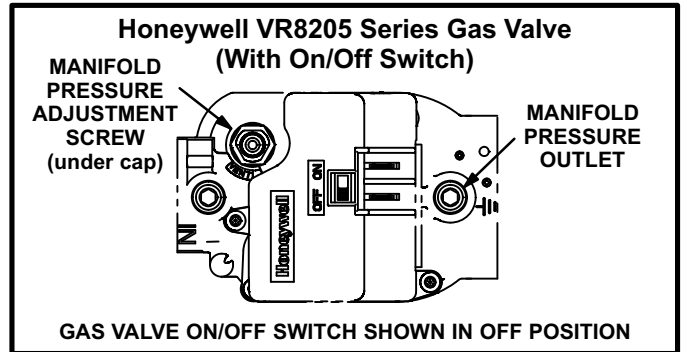

FIGURE 22
#### Gas Valve Operation (Figures 22, 23, and 24)
- 6 - *Honeywell VR8205 Gas Valve with ON/OFF Switch* - Move gas valve switch to **OFF**. See figure 22.
- 8 - *Honeywell VR8205 Gas Valve with ON/OFF Switch* - Move gas valve switch to **ON**. See figure 22.
- 4 - *Honeywell VR8205 Gas Valve with ON/OFF Switch* - Move gas valve switch to **OFF**. See figure 22.
- 2 - After the line pressure has been checked and adjusted, check the manifold pressure. A natural gas to LP/propane gas changeover kit is required to convert the unit. Manifold pressure for all units fueled by natural gas at all altitudes is 3.5" w.c. Manifold pressure for all units fueled by L.P./propane gas at all altitudes is 10.0" w.c. See figures 22, 23 and 24 for the location of the manifold pressure adjustment screws.